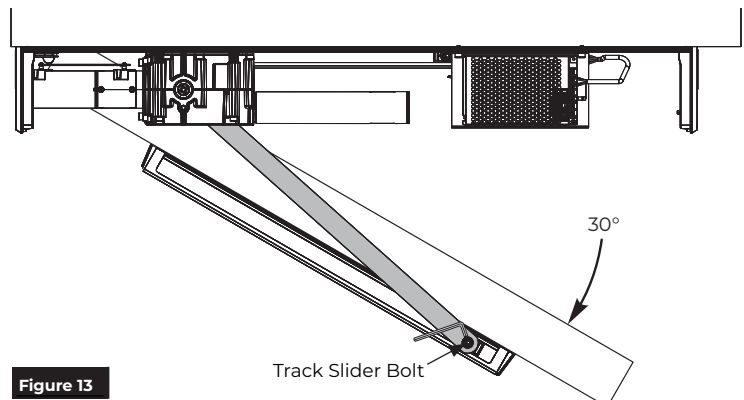

Figure 13
3. Open door approximately 30 degrees and attach arm to slider in track. Use hex wrench to tighten slider bolt counter clockwise until slide is tight in arm. (Figure 13)